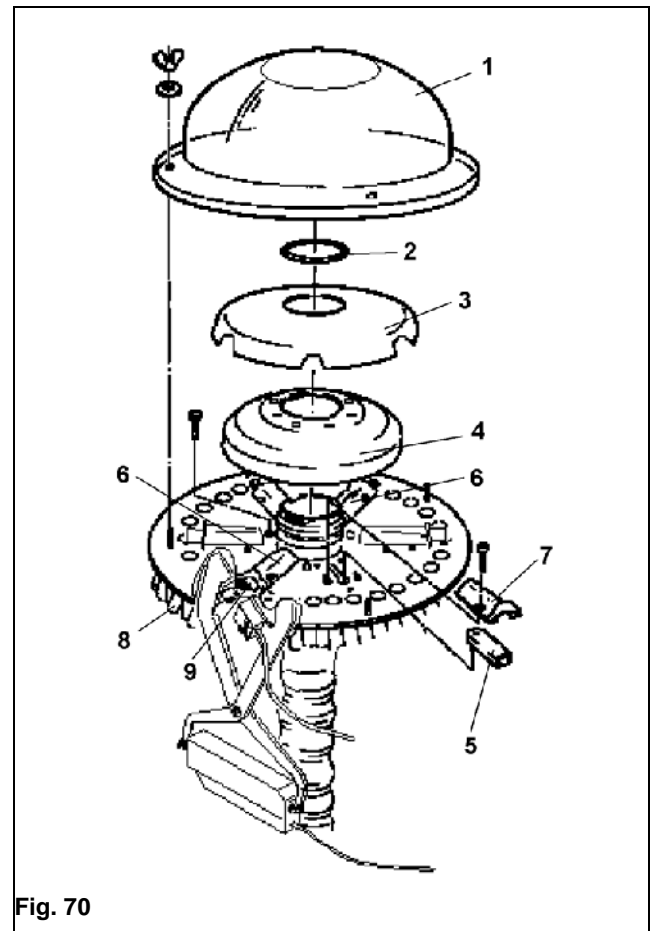

Fig. 70
On supply of the seed drill the tramline kit has been set to the wheel marks of your husbandry tractor. However, should it be necessary, e.g. when purchasing a new husbandry tractor, to set your tramline system onto the wheel marks of the new tractor, the seed tubes (Fig. 70/8) have to be interchanged for one another on the distributor head. Thereby it should be noted that the tramline coulters are fixed to such outlets which can be shut by the shutter slides (Fig. 70/9).
- Outer distributor hood (Fig. 70/1)
- O-Ring (Fig. 70/2)
- Inner distributor hood (Fig. 70/3) and
- Foam material insert (Fig. 70/4).
It is possible to fit up to 6 shutter slides. Always two shutter slides (Fig. 70/6) should be fitted on the base plate opposing each other. For mounting or dismounting the shutter slide (Fig. 70/5) the shutter slide funnel (Fig. 70/7) must be removed.
Insert not needed shutters (Fig. 70/1) in reverse order into the holes (Fig. 70/2) (parking position).